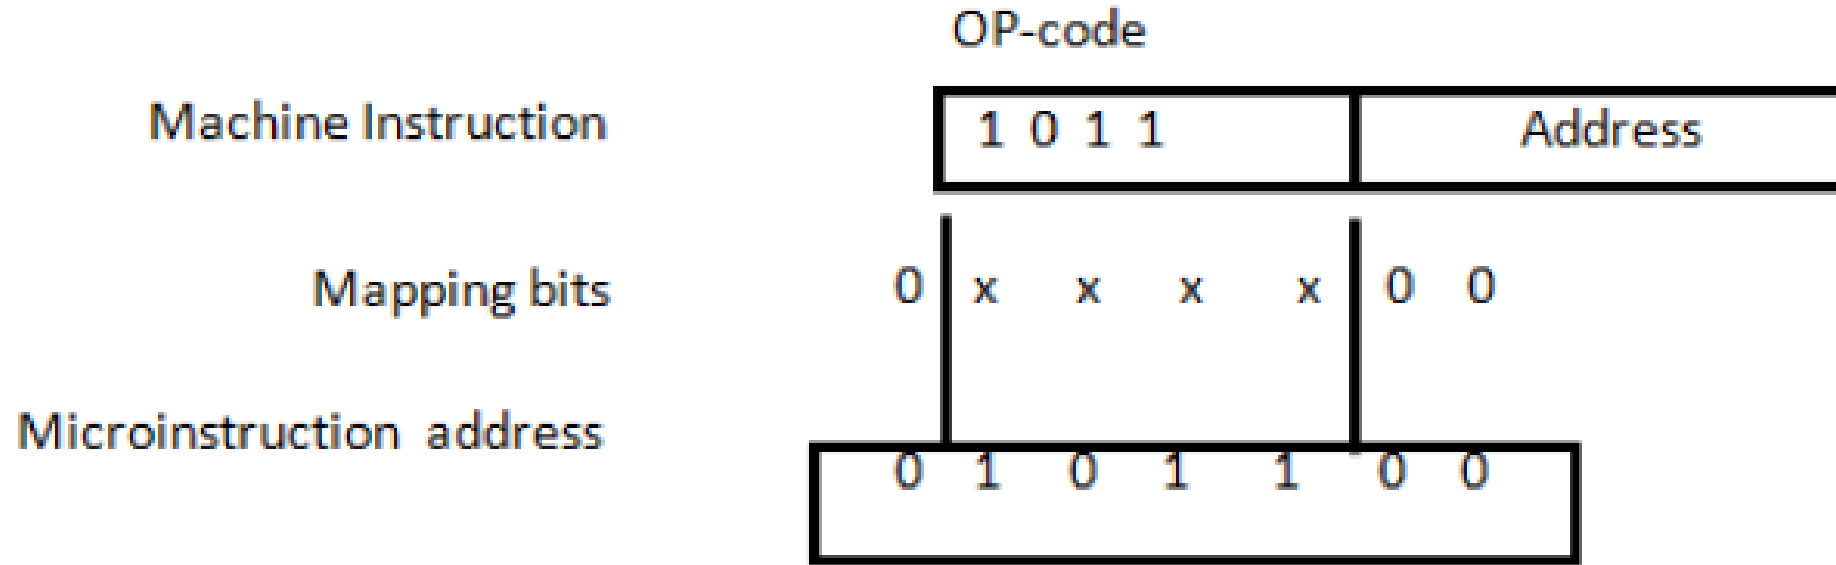

Figure 4.3: Mapping from instruction code to microinstruction address
For example, a computer with a simple instruction format as shown in figure 4.3 has an operation code of four bits which can specify up to 16 distinct instructions.
- One simple mapping process that converts the **4-bit operation code to a 7-bit address** for control memory is shown in figure 4.3.